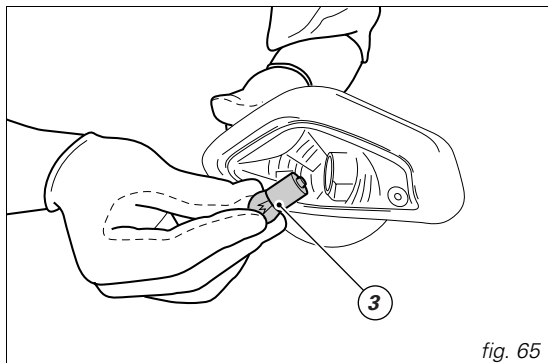

fig. 65
The bulb (3) is of the bayonet-type: press and twist counter-clockwise to remove. Replace the burned out bulb with a new one of the same rating. Press the bulb in and twist clockwise until it clicks into place (fig. 65).